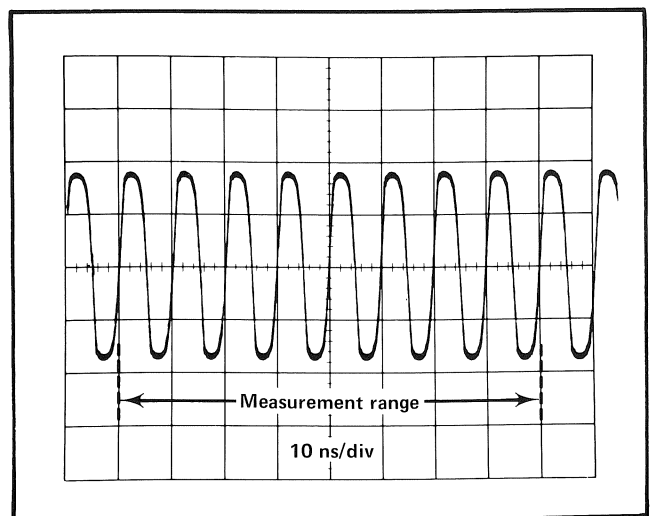

Fig. 6-6. Waveform showing correct C525 control adjustment (Step 4).
i. Adjust C525 for 1 cycle/div (see Fig. 6-6).